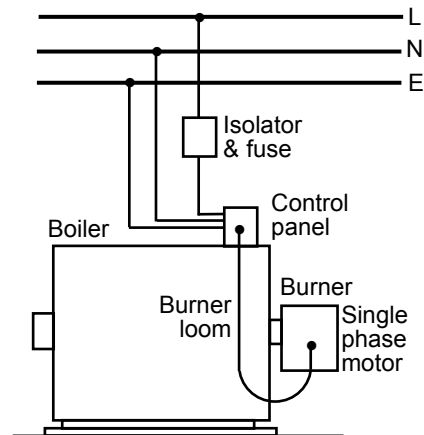

Fig 5 - Electricity supply
### Electrical supply (Refer Fig 5)
**Note:** Fig 5 is only diagrammatic. Double pole switches with the required minimum separation must always be used.